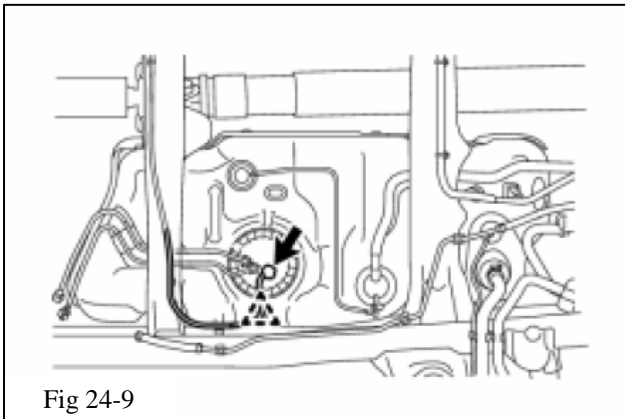

Fig 24-9
**!** (n) Slowly lower the fuel tank and disconnect the fuel pump connector. (Fig. 24-9)